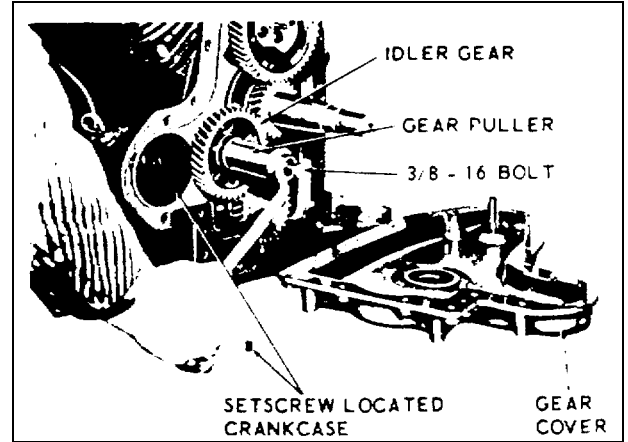

Figure 4-11. Removing Idler Shaft
- (4) Remove setscrew on magneto side of crankcase which locks idler shaft in position. Remove idler gear assembly and idler shaft using a gear puller as shown in figure 4-11.
(7) Install idler gear and shaft in crankcase. Be sure oil groove in shaft is facing up. Drive shaft into crankcase with soft metal hammer and maintain a 0.003 to 0.004 inch clearance between idler gear and shoulder of shaft. Install setscrew (figure 4-11) on magneto side of crankcase to lock idler shaft in place.